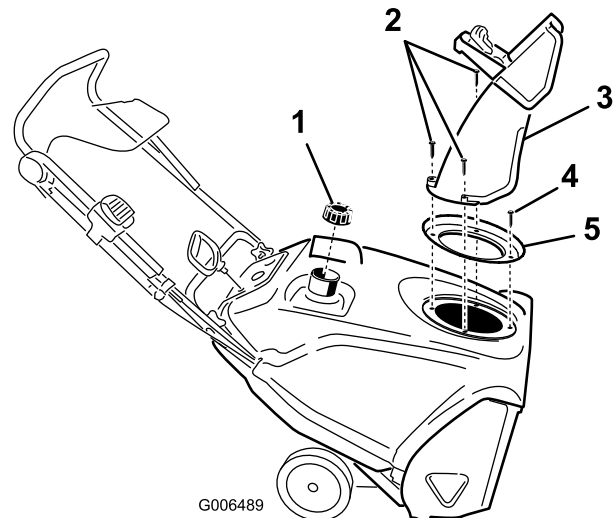

Figure 31
3. Remove the discharge chute, the discharge chute handle, and the chute seal by removing the 3 large screws and one small screw (Figure 31).